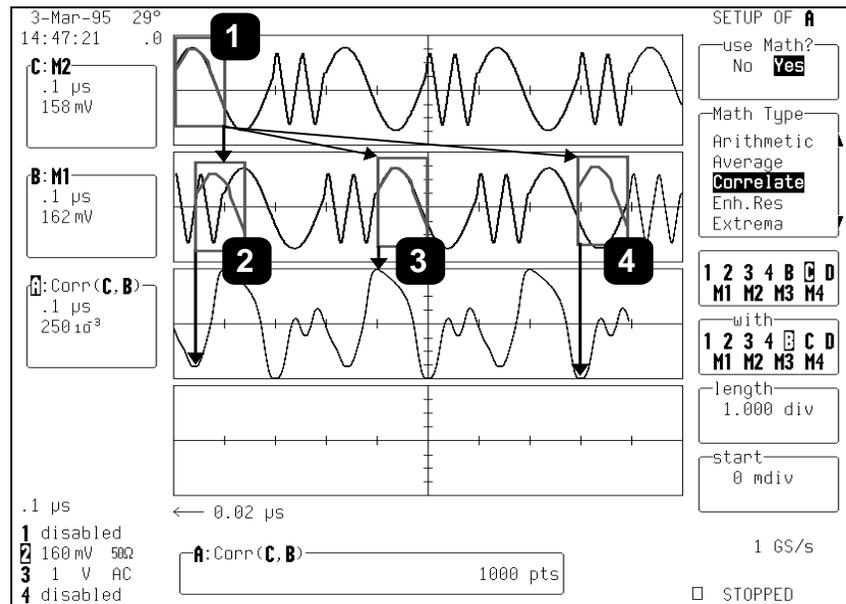

Figure 8.5
Figure 8.5, below, shows the resulting correlation waveform: the waveform section is selected from Trace C, "with" Trace B. A correlation waveform very different from that of the preceding figures appears. Again, the annotated boxes show the selected Trace C waveform section (1) overlaid on different sections of the Trace B waveform (2, 3, 4).